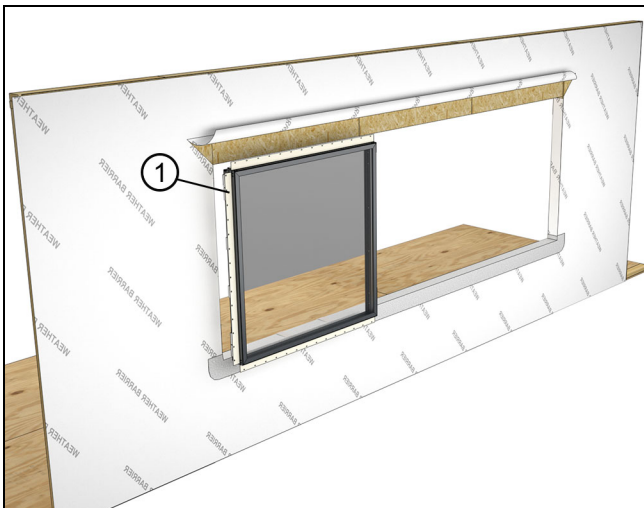

Figure 26 Install the first window (A1)
**NOTE:** If you are mulling an assembly in place set the first window (A1) in the opening and fasten the jamb, sill, and head jamb. See Figure 26 and Figure 27. The illustrations that follow in this section show a 3-wide unit with two vertical mulls, mulled in the opening. If you are mulling the assembly before installation follow step 1 on page 14 through step 6 on page 17.